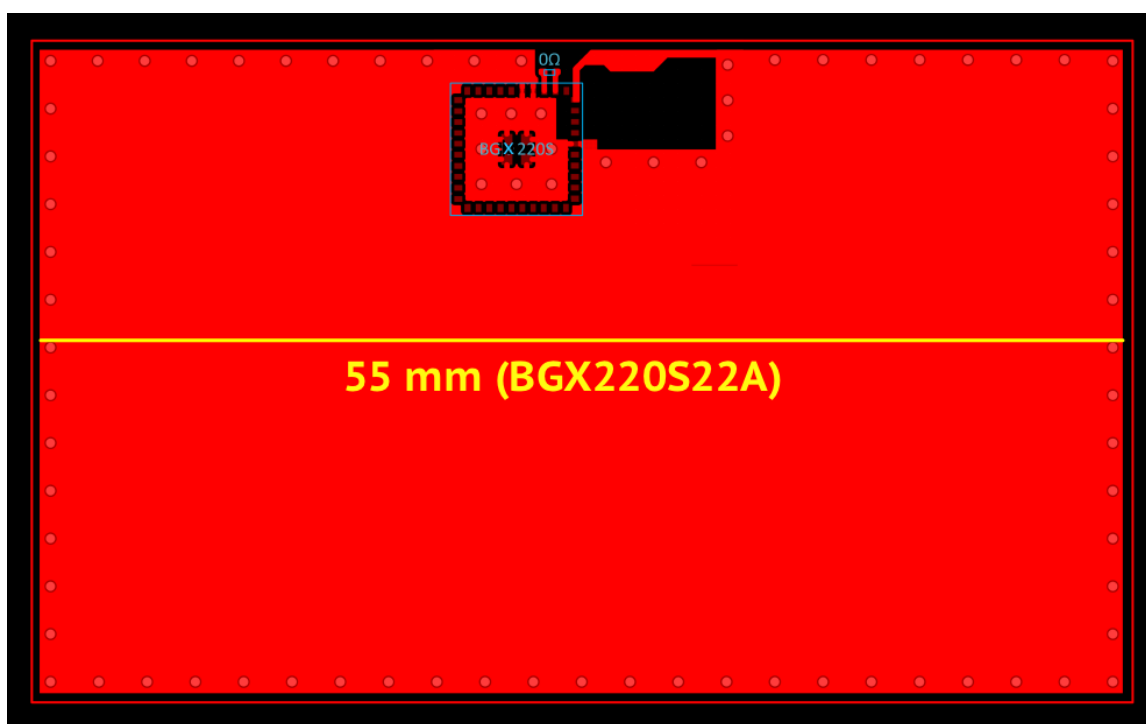

Figure 7.4. Illustration of Recommended Board Width
- To achieve optimal performance, a GND plane width of 55 mm for BGX220S is recommended as seen on Figure 7.4 Illustration of Recommended Board Width on page 27.